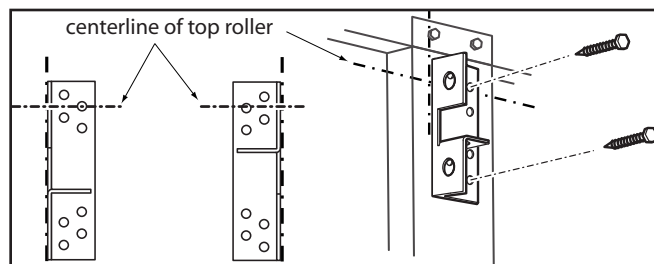

FIG. 2-8 Examples of door bracket positioning
- Align door bracket centered on your vertical centerline (Fig. 2-8).